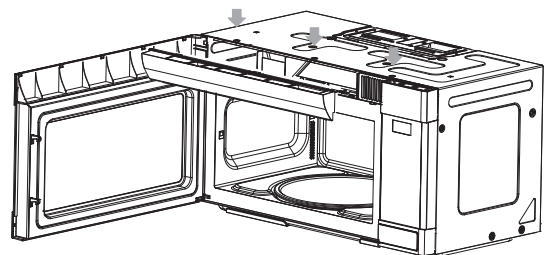

Figure 26
2. Remove the grille air mounting 3 screws and open the door. See Figure 26.